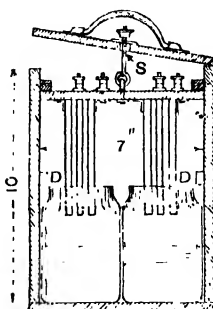
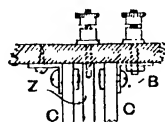
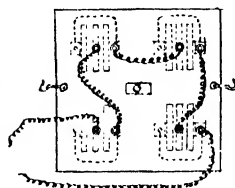
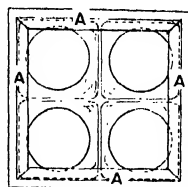

Fig. 288.—Section of Portable Bichromate Battery.
Fig. 291.—Fixing Plates of Portable Battery.
Fig. 289.—Terminal Board for Portable Battery.
Fig. 290.—Plan of Cells of Portable Battery.
**Portable Bichromate Battery.**—This battery, charged with the usual solution of bichromate of potash or chromic acid, will be found very handy for lighting an 8-volt lamp or working induction coils, motors, etc., and, with care, can easily be carried about when charged. Fig. 288 is a section of the battery, and shows the method of holding the elements out of the liquid while being carried about. When the thumbscrew is tightened up, the carbons and zincs are held rigid, and the box is made practically water-tight. Fig. 289 is a plan of the terminal board, Fig. 290 is a plan showing the four glass cells, while Fig. 291 shows the method of fixing the carbons *c* and zinc *z*. The box should be of mahogany not less than  $\frac{3}{4}$  in. thick when planed, the inside dimensions being 10 in. by 7 in. by 7 in. The sides must be notched or dovetailed into each other, glued and screwed together, and the lid attached with brass hinges and fitted with a brass handle. A small brass plate, with a hole bored in it, should be screwed to the centre of the lid, for the screws to pass through. A piece of mahogany is next cut about 7 in. square, and made to fit easily within the box; this is for the terminal board to which the elements are attached. Four wood strips *A* (Fig. 290),  $\frac{1}{2}$  in. by  $\frac{1}{2}$  in., are mitered at the ends and screwed to the sides at  $\frac{1}{2}$  in. from the top of the box (see Fig. 288); care must be taken that they are quite flush with each other on the under side. Brass screws had better be used, three to each strip. These wood strips have india-rubber glued on the under side—a  $\frac{1}{2}$ -in. wide elastic band, or a piece of bicycle inner tube, is suitable; this will prevent leakage to any great extent
if the battery should be accidentally overturned. The box and the top of the terminal board should now be french-polished, and painted inside with several coats of shellac varnish; then, if well fitted, it will be quite water-tight. The glass cells are ordinary Leclanché battery cells, No. 3 size, but any glass jar of square shape, about 5 in. deep, would do. Paper may be wrapped around each, to prevent shaking, if the cells are too loose a fit in the box. Eight carbons, 5 in. by 2 in. by  $\frac{1}{4}$  in., are required, and four zincs the same size and not less than  $\frac{3}{16}$  in. thick. Eight pieces of brass,  $1\frac{1}{4}$  in. by  $\frac{3}{8}$  in. by  $\frac{1}{16}$  in., are bent at right angles, and drilled for screws and terminals, as shown at *B* (Fig. 291). Suitable screws, such as are used for tin trunks, can be bought at the ironmonger's; they must be of brass, and have round heads and flat nuts. The terminals are small-size telegraph pattern; and four will require nuts. One terminal is required for each pair of carbons, one carbon being attached with an ordinary wood screw to the terminal board. The pairs of carbons are connected together with thick insulated copper wire, shown by dotted lines in Fig. 289; the best way of doing this is to solder the ends to the brass angle pieces. The zincs are drilled and tapped to receive the terminal; this is the best method of attaching the zincs, as they can then be easily replaced when used up. A screw-eye is fixed in the centre of the terminal board, and a piece of  $\frac{3}{16}$ -in. brass wire screwed for a thumbscrew and bent into a hook, as shown in Fig. 288. The space between the carbons and zincs should not be more than  $\frac{1}{4}$  in., two pins being fixed each side of the zinc to prevent it turning and touching the carbons. When all the screws are screwed up perfectly tight, all metalwork on the under side of the terminal board must be coated with thick shellac varnish or melted pitch, to prevent the acid fumes from corroding the connections; the tops of the carbons and zincs should be treated in the same way. Two small hooks are shown in Fig. 289, to hold the elements up when the battery is not in use, screw-eyes being fixed in the wood strips *A*. Four pieces of wood for the terminal board to rest on when lowered should be fixed at the corners of the box as shown at *D* (Fig. 288).